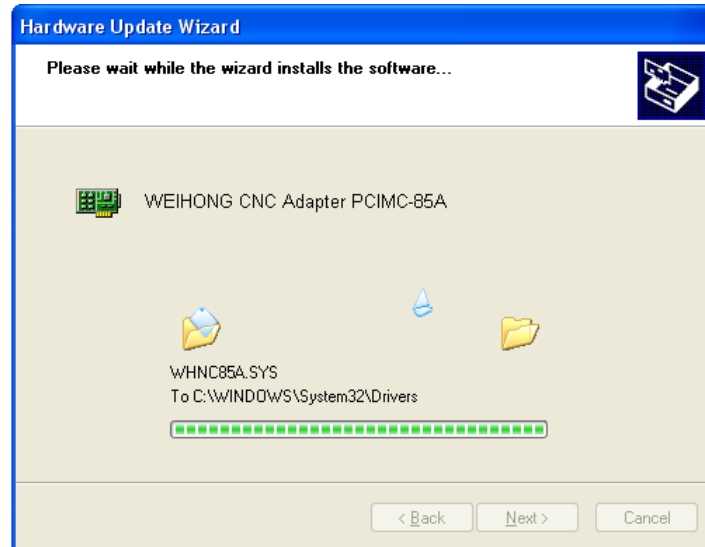

Fig. 3-7 Updating the driver
- 7) Click “OK” to go back, and then click “Next” to start updating the hardware driver with the progress bar displayed. See Fig. 3-7.